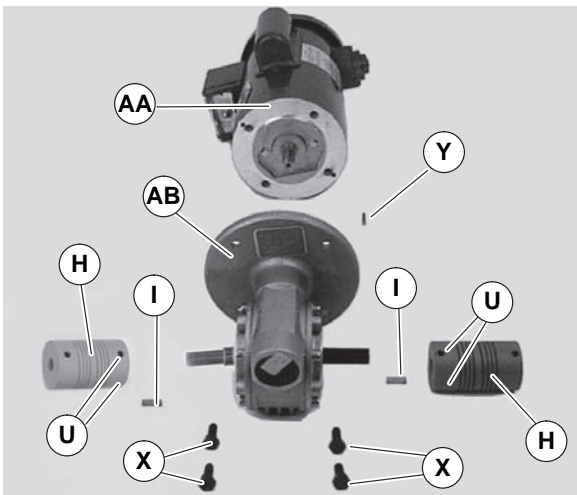

Figure 37
7. Remove four screws (Figure 37, item X). Detach motor (AA) from gear reducer (AB). Retain shaft key (Y).
12. With key (Figure 37, item Y) in keyway, slide motor (AA) and gear reducer (AB) together. Install screws (X) and tighten.
13. Attach couplings (Figure 37, item H) to gear reducer shaft. Tighten set screws (U) to 32 in-lb (4.7 Nm).